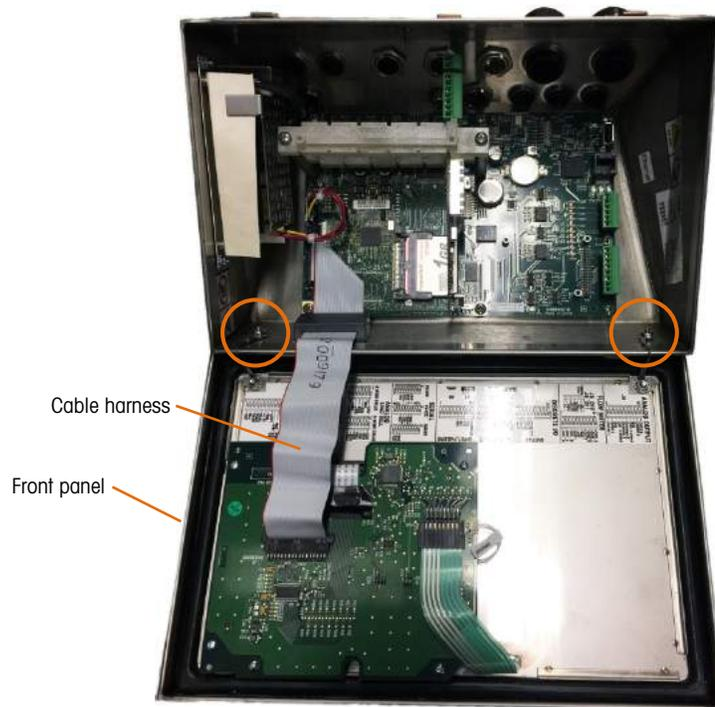

Figure A-9: Harsh Enclosure Open, with Front Panel in Original Orientation
3. Loosen and remove the two nuts securing the two metal cables that hinge the front cover to the rear housing. These are circled in Figure A-9.